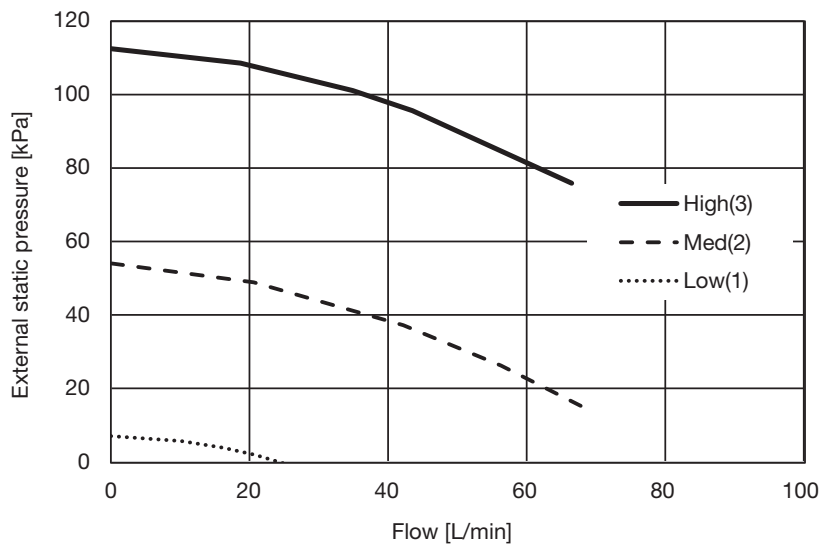
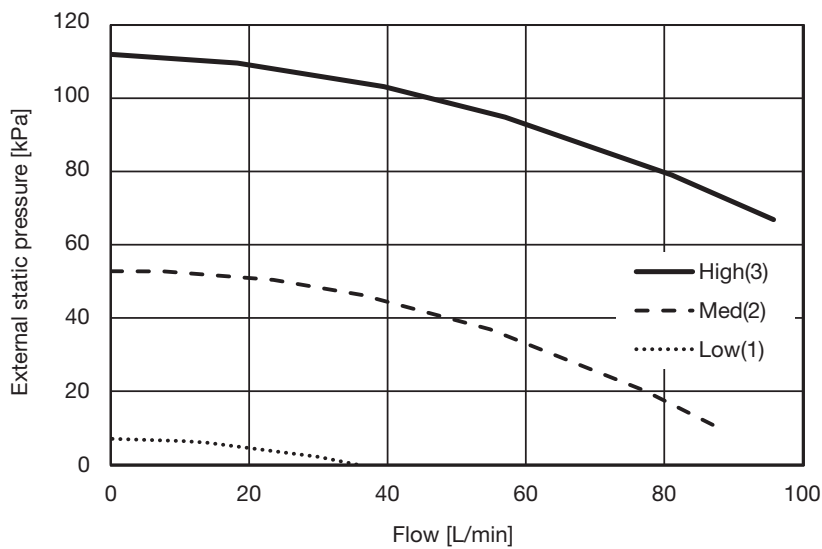

Fig.1 Hydraulic performance curve for HMU140KXZE1
Fig.2 Hydraulic performance curve for HMU280KXZE1
- The flow rate can be estimated from Fig.1 or Fig.2. External static pressure (ESP) is indicated on the HMU outlet manometer (locally procured).
- Above instruction , Fig1 and Fig.2 are for constant speed mode of the pump. The pump (Wilo-Yonos PARA high Flow 25/12) has Δ p-v mode and Δ p-c mode. See technical manual of the pump for more information.